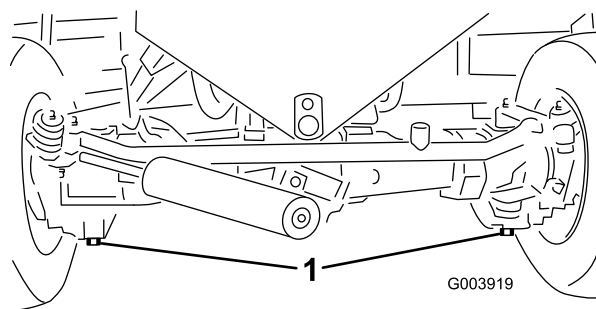

Figure 64
2. Clean the area around the drain plugs (Figure 64).